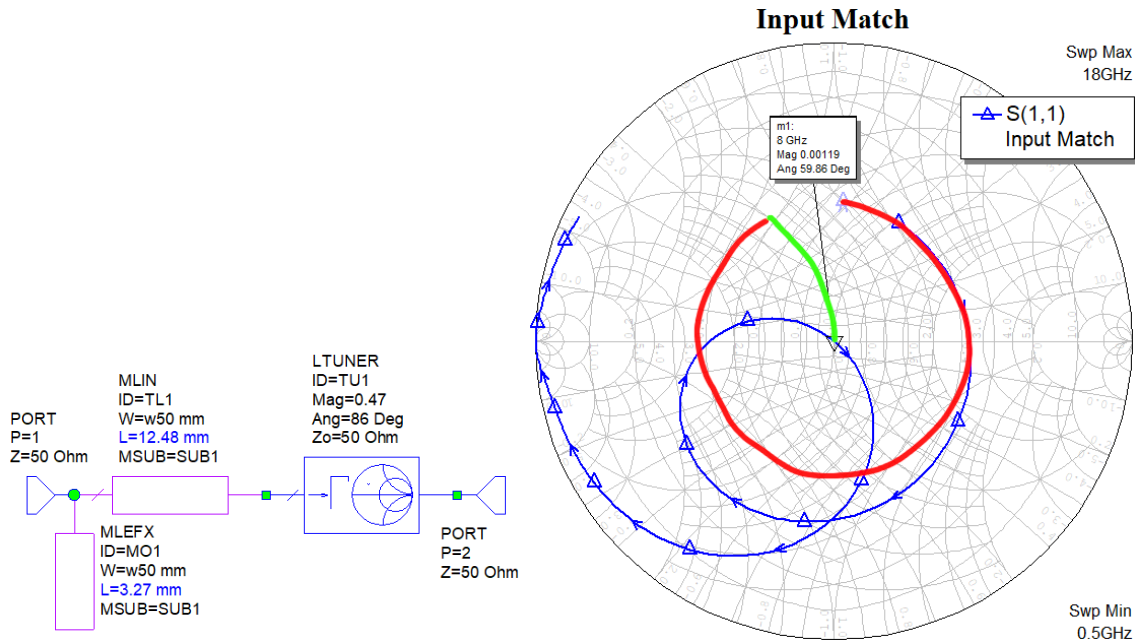

Fig. 5 IMC schematic and design procedure.
- The IMC schematic and design procedure is shown in Fig. 5.